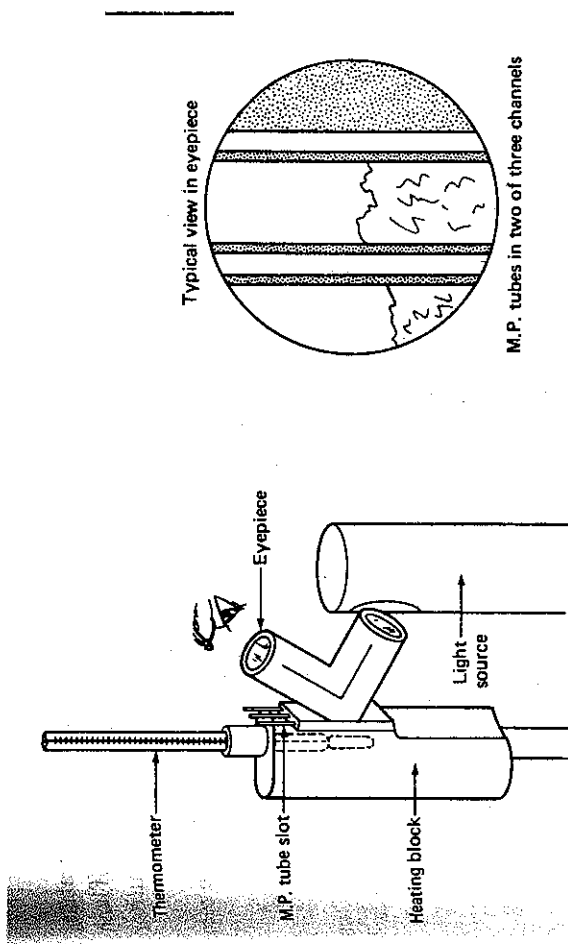

Fig. 49 Close-up of the viewing system.
2. Place loaded M.P. tube in one of the three channels in the opening at the top of the unit (Fig. 49).
6. **Eyepiece.** Magnifies the sample (Fig. 49).